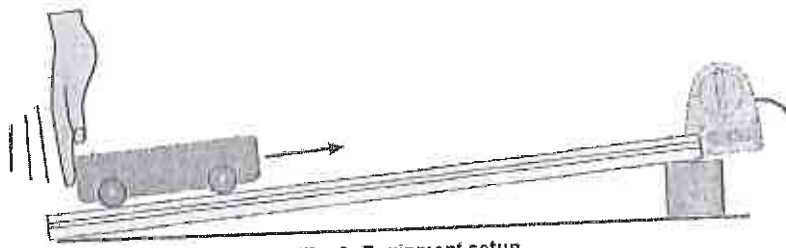

Fig. 2: Equipment setup
- Place the PASCO track on a table and attach the Motion Sensor to one end of the track as shown in figure 2.